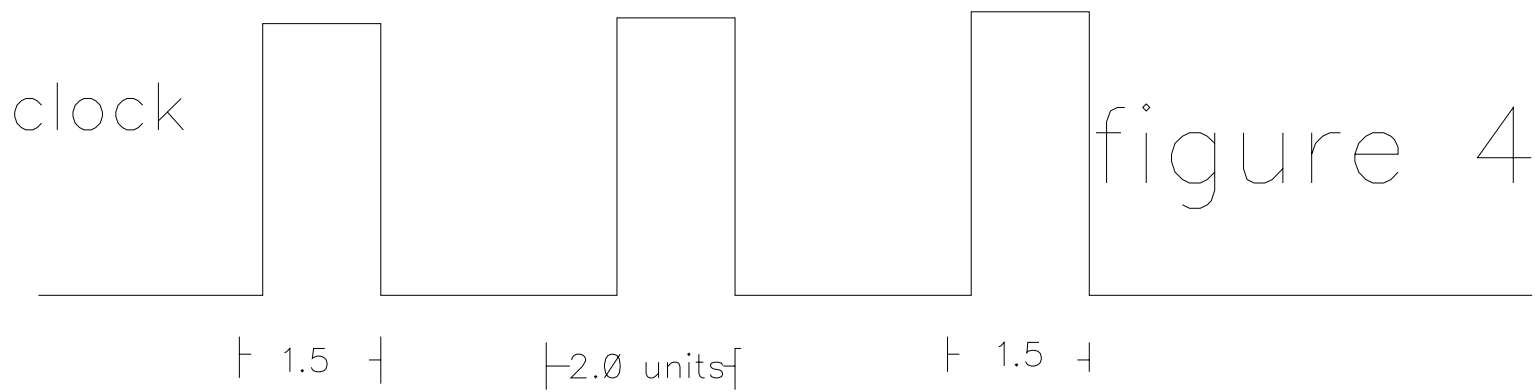

figure 4
- 4.2.2 Signal offset is similar to ISI in effect, in that it also causes a zero crossing shift. Because it is difficult for a driver to exactly cancel-out the voltage bias from the terminators, there is sometimes an offset in the output levels due to this. Whenever there is a non-zero slew rate on a signal edge, zero crossing skew will be introduced by this offset. Figure 4 tries to illustrate this point.